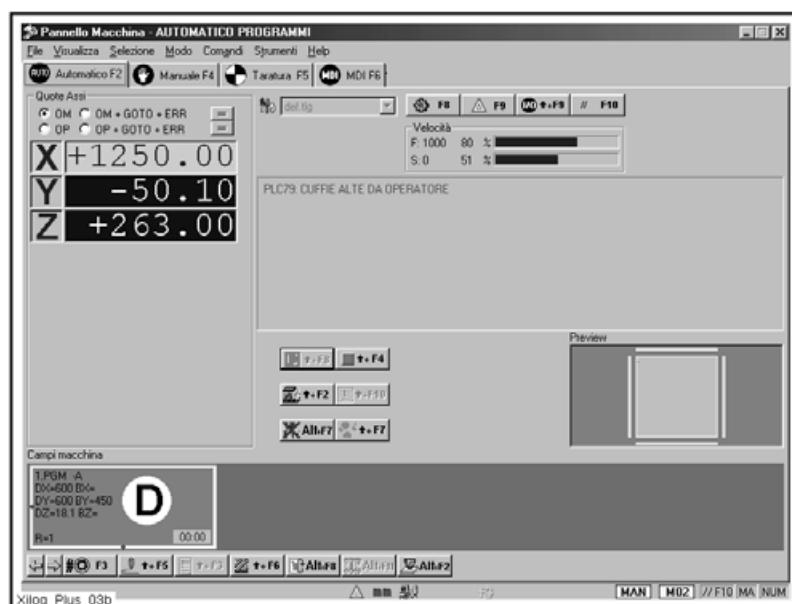

Fig. 4.8b
- at this point the stops draw back and the panel is ready for machining. The program box D (Fig. 4.8b) on the NC turns dark blue if the field is immediately available for machining. It turns light blue if it is not immediately available for machining and a selection is generated (this occurs when the machine is machining on another field).